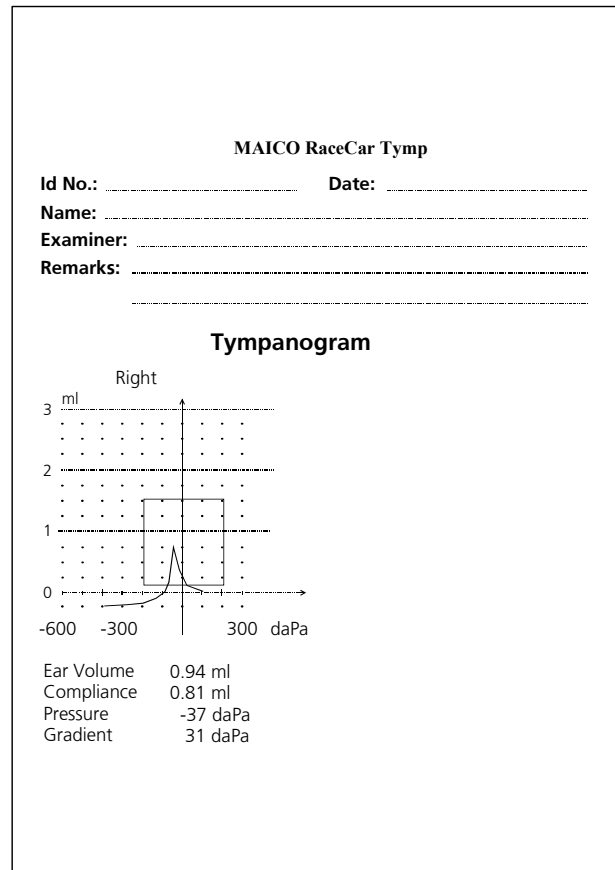

Figure 16 – Printout of Tympanogram
After the end of a test you can print out the results for your records by pressing the PRINT button ①. The thermal printer prints out the result in 6 seconds. While the printer is working no key action is possible and the probe is inactive. Figure 16 shows the printout: